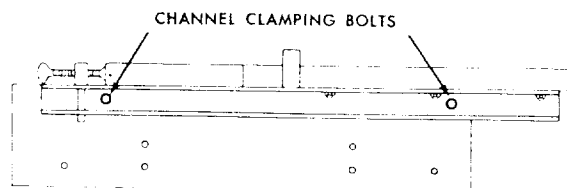

Figure 10
3. Tighten both channel clamping bolts (Fig. 10) at front of base until they are snug (use wrench but do not pull up solid.) Tighten channel clamping bolts at back of base only to a finger tightness.